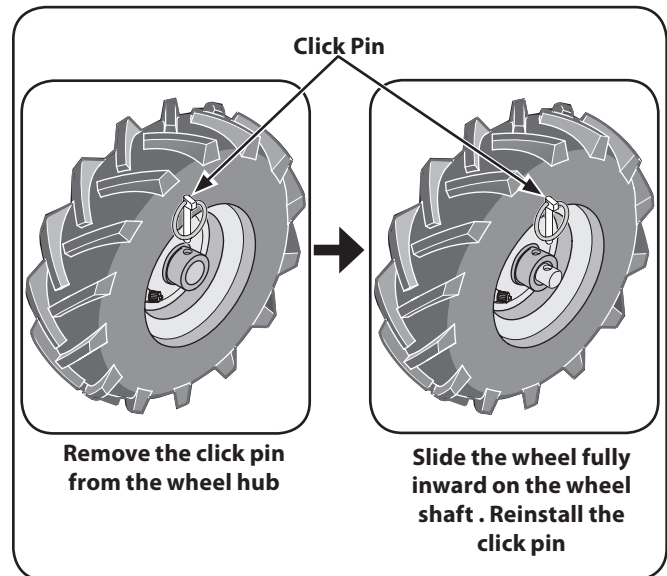

Figure 3-4
1. Place a sturdy block under the transmission to raise one wheel about 1" off the ground. Remove the click pin from the wheel hub and wheel shaft. See Fig. 3-4.
2. Slide the wheel fully inward on the wheel shaft. Reinstall the click pin through the wheel shaft only (not through the wheel hub). See Fig. 3-4. The wheel should now spin freely (freewheel) on the wheel shaft. Repeat with the other wheel.